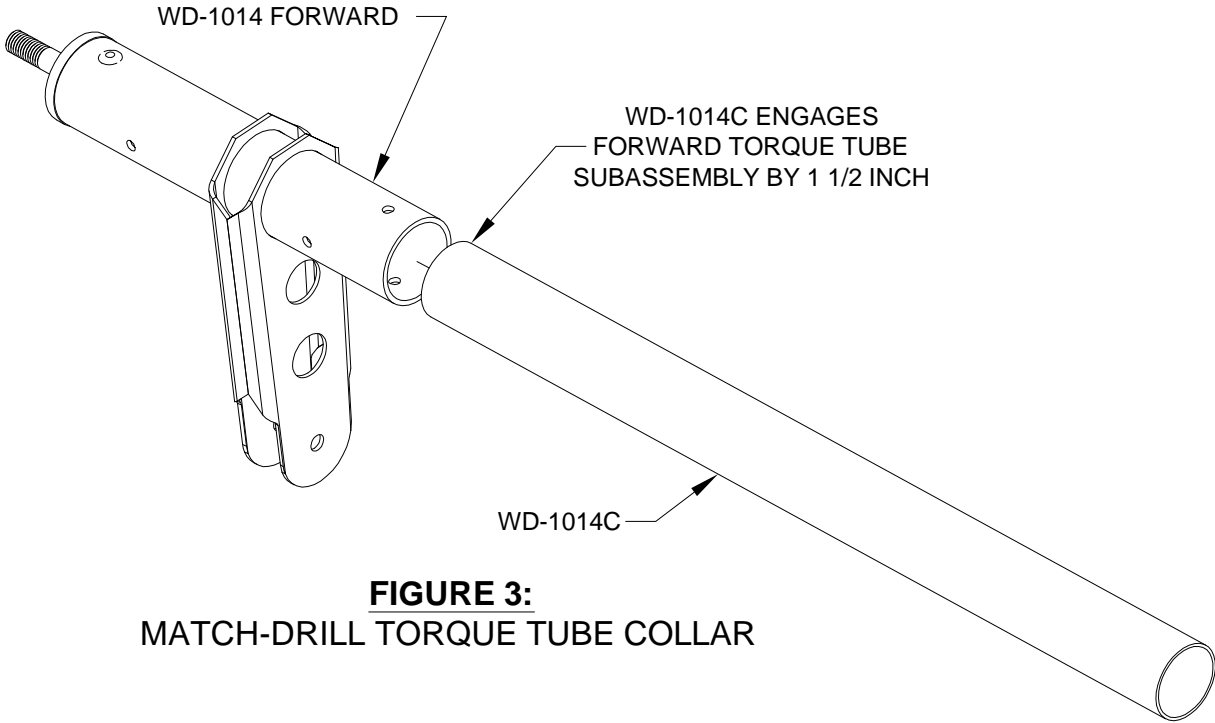

FIGURE 3:
Step 3: Insert WD-1014C Torque Tube Collars in the open ends of the WD-1014 FORWARD Forward Torque Tube Subassemblies as shown in Figure 3.
Using a #30 bit, match-drill the torque tube collar using the holes in the forward torque tube subassemblies as drill guides. See Figure 3. Install a cleco in each hole as it is match-drilled. Using a #12 bit, final-drill through both sides of the forward torque tube subassembly and torque tube collar. Install a bolt, washer, and nut as shown in Figure 4 to hold alignment while the other bolt hole is final-drilled #12.